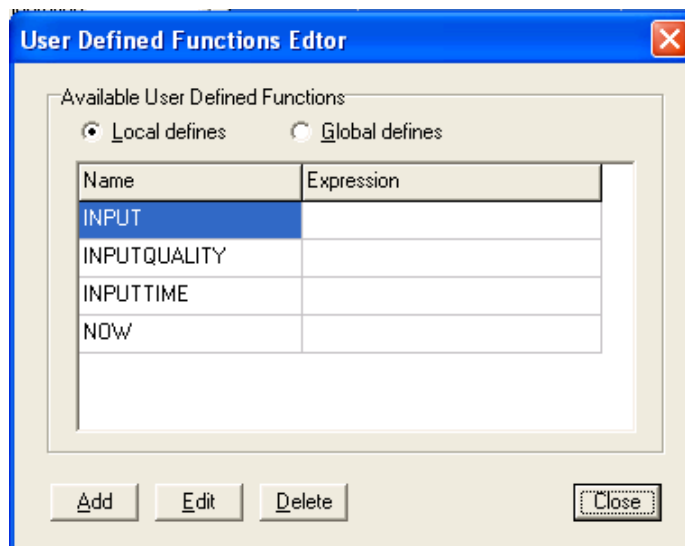

Figure 33 - User Defined Functions Editor
12. If required, from the **Select variable** window, click on the **Modify variables** button to access the **User Defined Functions Editor** (Figure 33) which allows you to add, change, or delete variables.